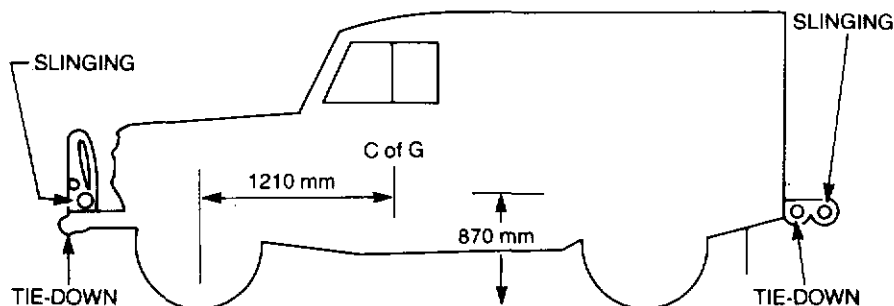

Figure 1-3 Slinging and tie-down points
34. Slinging and tie-down points are illustrated in Fig. 1-3.